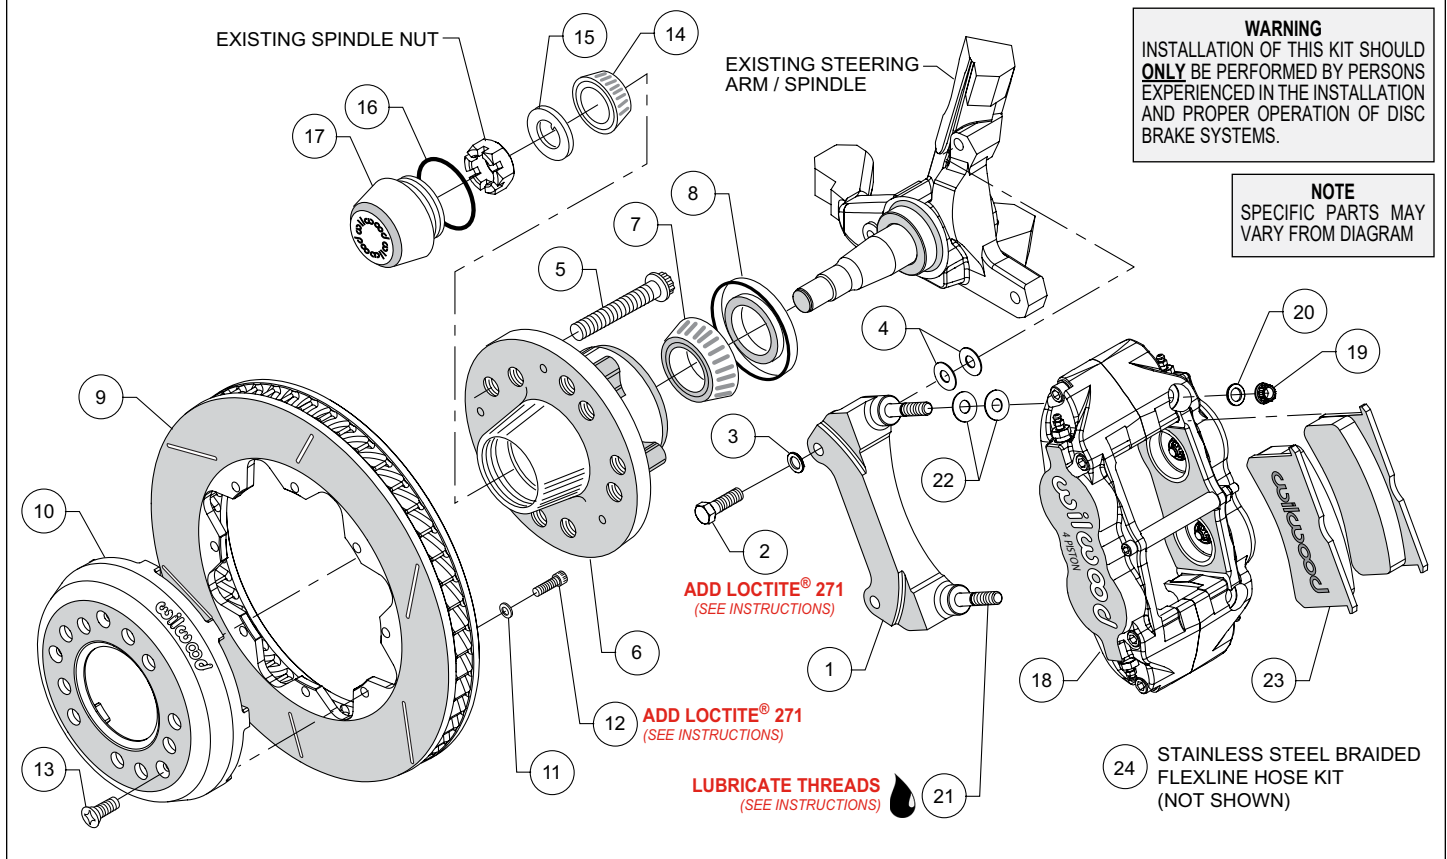
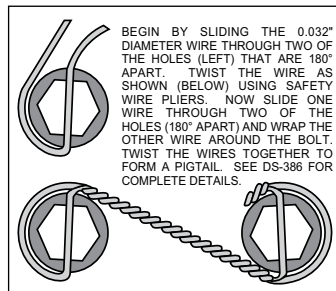

Figure 2. Typical Installation Configuration
Figure 4. Safety Wire Diagram
**NOTE:** Numbers in parenthesis refer to the parts list and Figure 2 on the preceding pages.
•The caliper mount bracket (1) should initially be installed with clean, dry threads on the mounting bolts. Orient the bracket as shown in Figure 2 and Photo 1, and install using bolts (2) and washers (3). Initially place two .035" thick shims (4) on each bolt between the bracket and upright, Figure 2. Temporarily tighten the mounting bolts. **NOTE:** The bracket must fit squarely against the mounting points on the spindle. Inspect for interference from casting irregularities, machining ridges, burrs, etc. Later, after the caliper alignment has been checked, the mount bolts will be secured using red *Loctite*® 271.
•Install wheel studs (5) into the hub (6), Photo 2. Torque to 77 ft-lb. **NOTE:** There are two five lug patterns in the hub (5 x 4.50 and 5 x 4.75). Ensure the correct hub stud pattern is being used to fit the wheel application.
•Pack the large inner bearing cone (7) with high temperature disc brake bearing grease (available from your local auto parts store) and install into the backside of the hub (6), Photo 3.
•Install the grease seal (8) by pressing into the backside of the hub (6), flush with the end of the hub, Photo 3.
•Orient the rotor (9) and the hat (10) as shown in Figure 2 and Photo 4. Attach rotor to hat using bolts (12) and washers (11). Apply red *Loctite*® 271 to the bolt threads and torque to 25 ft-lbs using a criss-cross pattern. For an added measure of security, the bolts may be safety wired using standard 0.032 inch diameter stainless steel safety wire as shown in Figure 4. Refer to
- Slide the hat/rotor assembly (9/10) onto the hub (6) taking care to align the small countersunk holes in the hat (10) with the small threaded holes in the hub. **NOTE:** The hat must fit flush against the hub face or excessive rotor run out may result. Install three flat head screws (13) through the small holes in the hat, Photo 6, and torque to 85 in-lb.
- NOTE:** This kit contains distinct right and left hand calipers that must be mounted in a specific direction, as described below. Lubricate the caliper mounting studs (21) with lightweight oil. Initially place two .035" thick shims (22) on each stud between the caliper and the bracket, as shown in Figure 2 and Photo 7. With the bleed screws pointing up, mount the caliper (18) onto the bracket (1) using lock nuts (19) and washers (20), Figure 2. Ensure that the caliper is mounted so the largest pistons are at the rotor exit end of the caliper, in relation to the direction of rotor rotation. Temporarily tighten the lock nuts and view the rotor through the top opening of the caliper. The rotor should be centered in the caliper, Photo 8. If not, adjust by adding or subtracting shims (4) between the bracket and the spindle. Always use the same amount of shims on each of the two mounting bolts. Once the caliper alignment is correct, remove the bracket mounting bolts one at a time, apply red *Loctite*® 271 to the threads, and torque to 40 ft-lb.